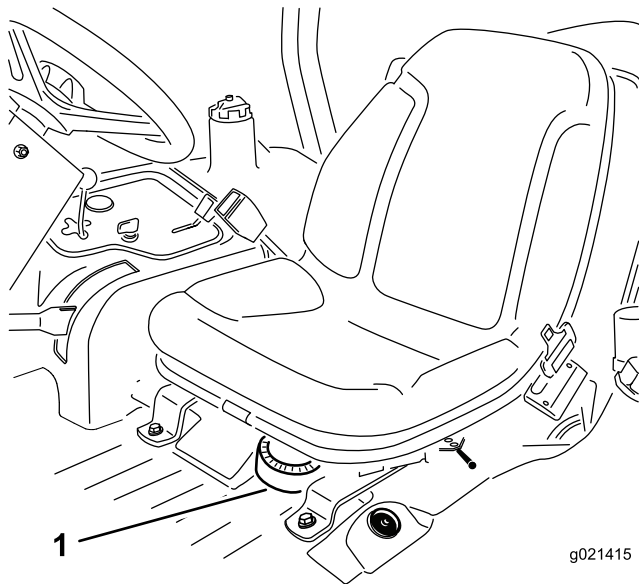

Figure 47
1. Remove the seat from the traction unit to access the fuel pump (Figure 47).